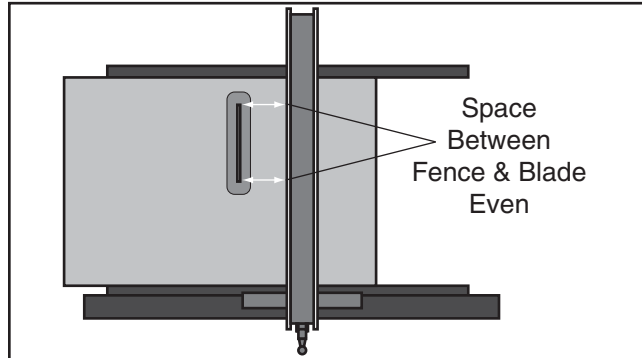

Figure 88. Example of fence aligned parallel to miter slot.
5. Rotate the blade 180° (**Figure 88**), and recheck the distance between the fence and the blade to ensure they are parallel.